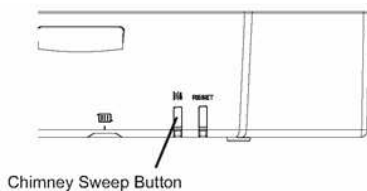

Fig. 62
1. The maximum rate CO2 setting can only be reached via the minimum rate. Press the Chimney Sweep (Fig. 62) button for approximately 3 seconds. The status signal for the Chimney Sweep button is orange and flashes green briefly to show that the minimum rate is selected.